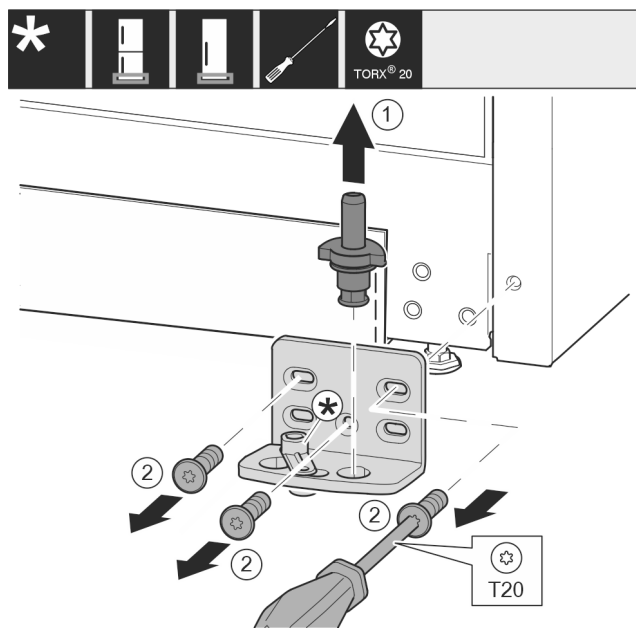

Fig. 17 *
- Pull the bearing bolt Fig. 17 (1) out upwards completely.*
- Use screwdriver to unscrew the screws Fig. 17 (2) and remove the swap bearing block.*